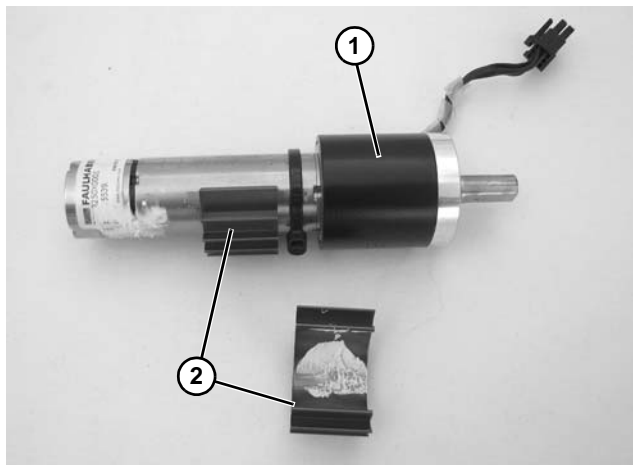

Figure 75
8. Remove motor (**Figure 75, item 1**).
9. Snap off heat sinks (**Figure 75, item 2**).